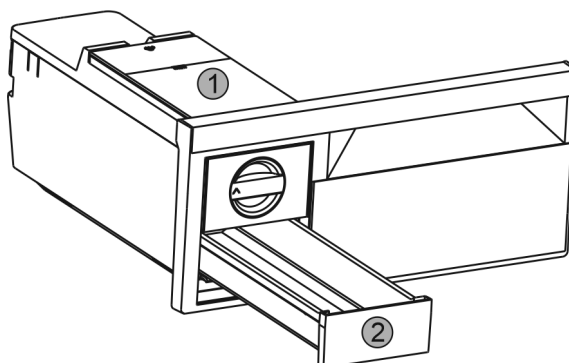

Fig. 36
- Take out the water tank *Fig. 36 (1)* and ice cube drawer *Fig. 36 (2)*.